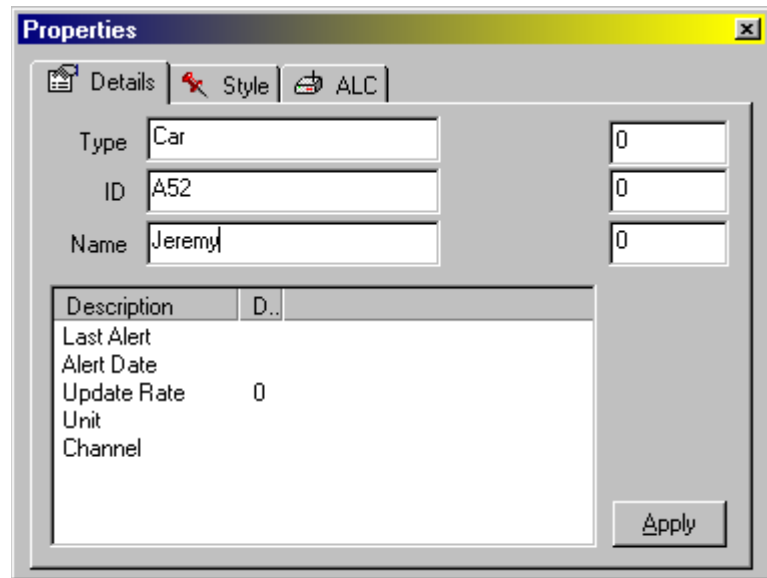

Figure 14
3. A properties box will appear with different options as shown in **figure 14**.
(Refer to figure 14)